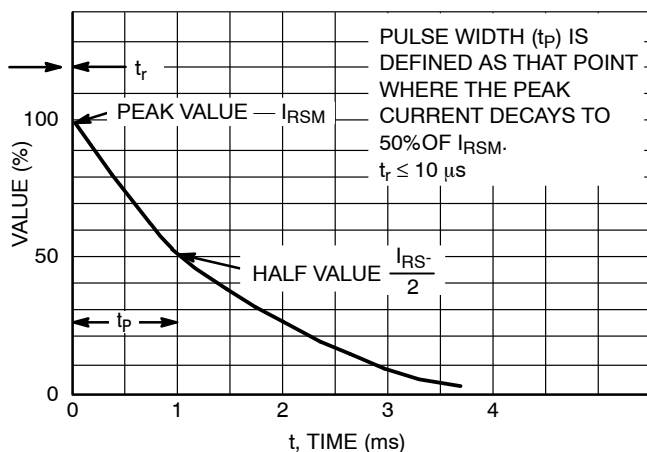

Figure 1. 10 × 1000 μs Pulse Waveform
- Peak Power: 24 W @ 1.0 ms (Unidirectional), per Figure 1
- Non-repetitive pulse per Figure 1.
| Clamping Voltage              | $V_C$    | $I_{PP} = 2.0\text{ A}$ (Figure 1)  | –   | –   | 9.6 | V             |